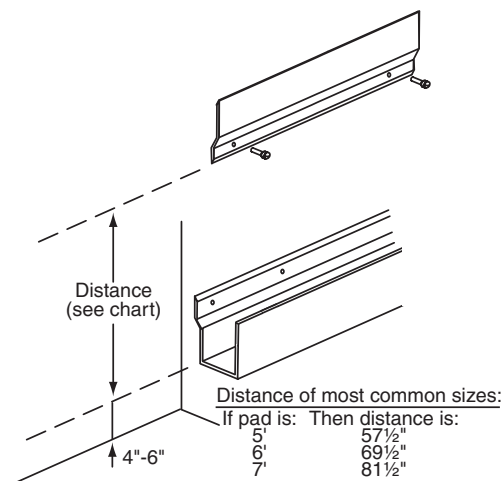

Figure 2
- ① Draw or strike a chalk line on the wall, between 4' and 6' up from the floor.
- ② Line up the "J" channel with the bottom edge on the line (see Fig. 2). Drill and anchor the channel to the wall with an appropriate fastener (provided by installer). Spacing and type of fastener is dependent on the type of wall structure. A groove is provided in the channel to aid in drilling holes.
- ③ Measure up the height of the pad minus 2½" from the bottom line, and make another line parallel to the bottom lines.
- ④ Locate the "Z" channel on the top line (see Fig. 2) and anchor to the wall with an appropriate fastener (provided by installer). Spacing and type of fastener is dependent on the type of wall structure.